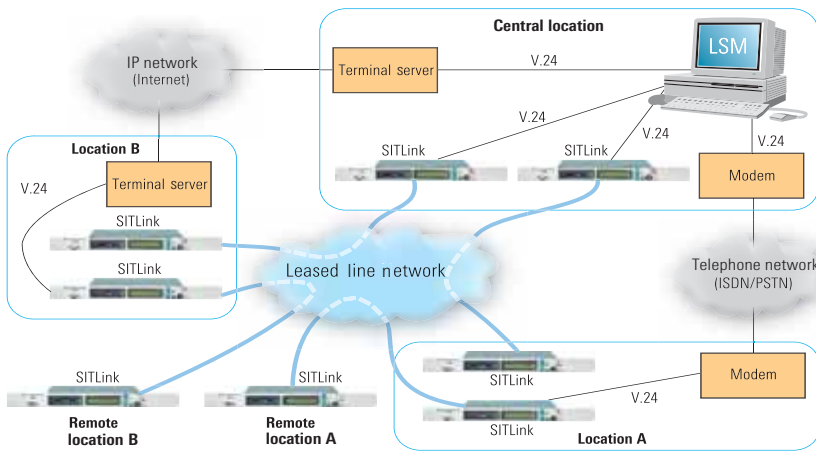

Fig. 3 Connection of local LSM (link security management)
Fig. 3 shows possible applications of LSM. For monitoring and management, one of the end nodes on the link to be protected is addressed directly (locally) or via the remote-control network. In this scenario, the serial V.24 link is emulated or tunneled through another network by means of a modem link or through the use of terminal servers (TS). Thus LSM can remotely access the line to be managed. The complementary unit on the link to be secured can then be accessed in-band via the secured data line. A precondition for this is, of course, that an active and secured link has been established between the SITLink units.